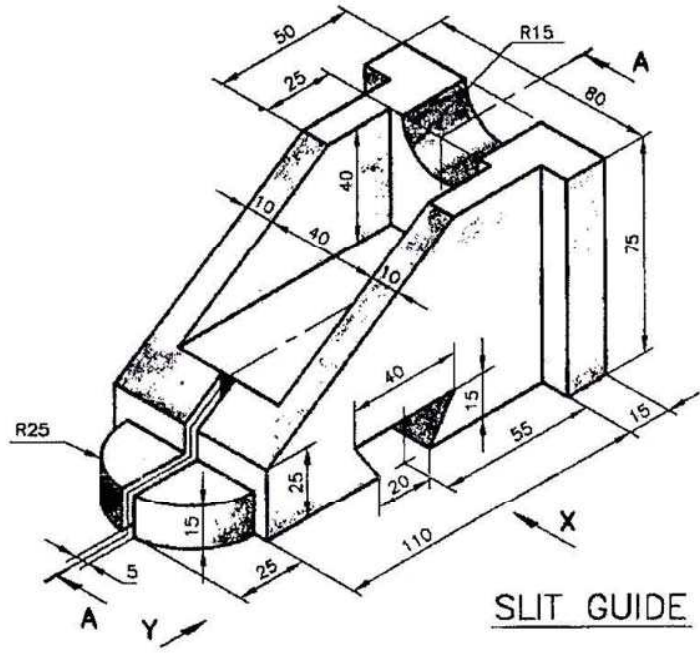

Fig. No. 2
4. Fig. No. 2 shows a pictorial view of a SLIT GUIDE. Draw the following views to full scale by using First Angle method of projection :